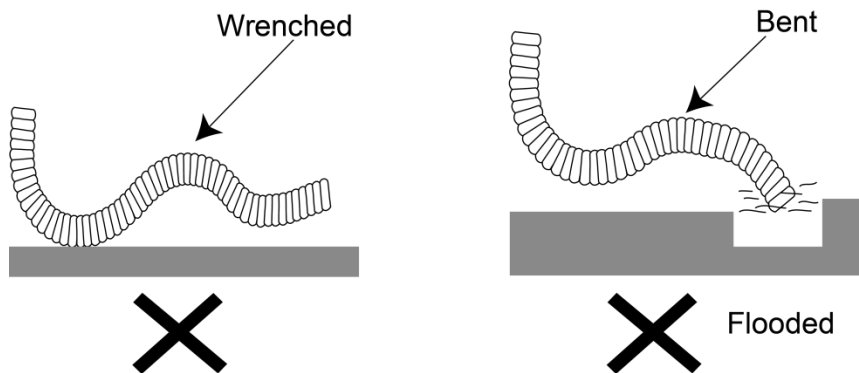

Fig 4.4
- (1) For proper draining, the drain hose should be placed at a downward sloping.
- (2) Do not wrench or bend the drain hose or flood its end by water. (Fig.4.4)
- (3) Wrap the drain hose with heat resistant material.
- (4) It is not allowed to connect the condensate drain pipe into waste pipe or other pipelines which are likely to produce corrosive or peculiar smell to prevent the smell from entering indoors or corrupt the unit.
- (5) It is not allowed to connect the condensate drain pipe into rain pipe to prevent rain water from pouring in and cause property loss or personal injury.
- (6) Condensate drain pipe should be connected into special drain system for air conditioner.